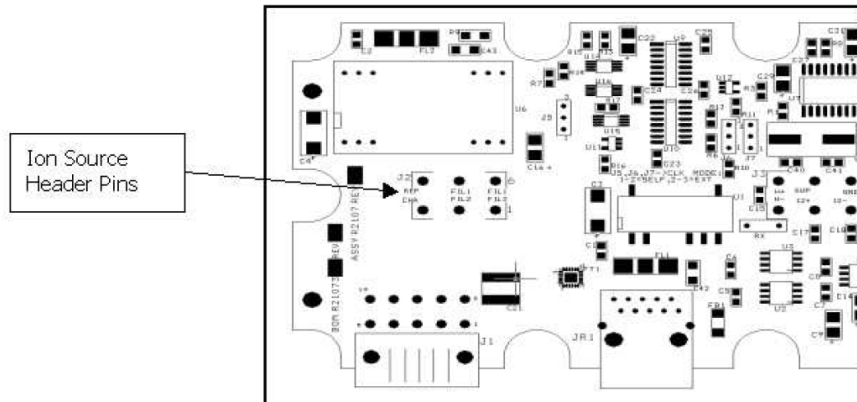

Figure 3-14. Ion source header pin schematic
30. On the PCB, use the resistance meter to verify an open circuit between any two of the six ion source header pins (except FIL-1 to FIL-1 and FIL-2 to FIL-2 which should be 0.3 Ohms or less). Also verify an open circuit between the body of the spectrometer and any of the ion source header pins (Figure 3-14). If there is continuity (short circuit) at any of the points, remove the header and inspect for shorting.